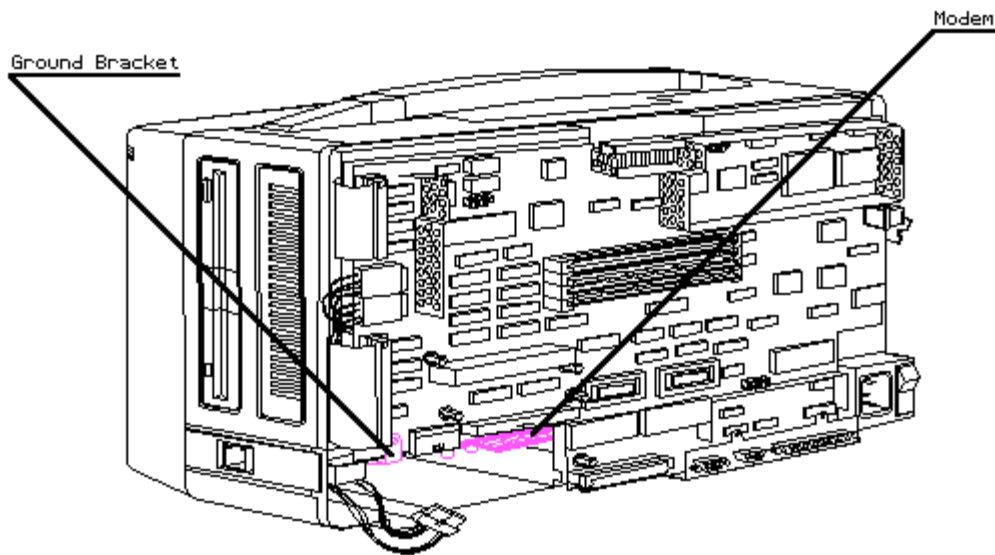

Figure 8-15. Internal Modem and Modem Ground Bracket Locations
5. Locate the internal modem and modem ground bracket shown in Figure 8-15.